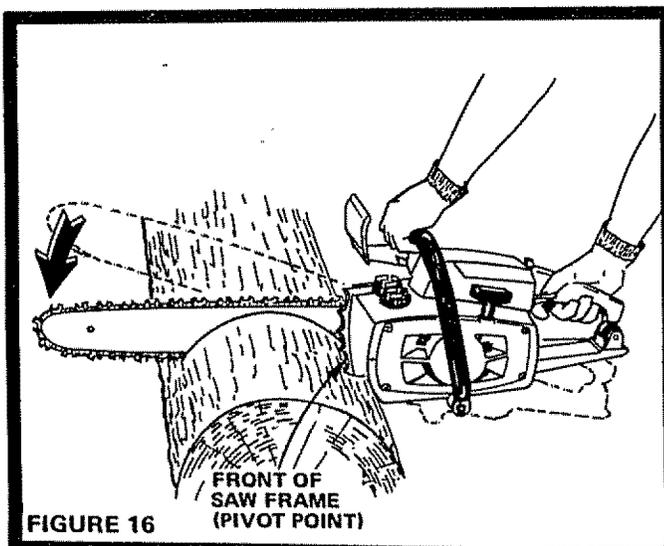

FIGURE 16
USE A FIRM GRIP (THUMBS OPPOSING FINGERS) WITH LEFT HAND ON FRONT HANDLE AND RIGHT HAND ON REAR HANDLE. KEEP A SECURE BALANCED FOOTING TO THE LEFT OF THE SAW AND DON'T OVERREACH (FIG. 16).
2. Start cutting with the front of Saw Frame against the log or tree and pivot as you cut so that the Bar Nose enters the cut last (Fig. 16).